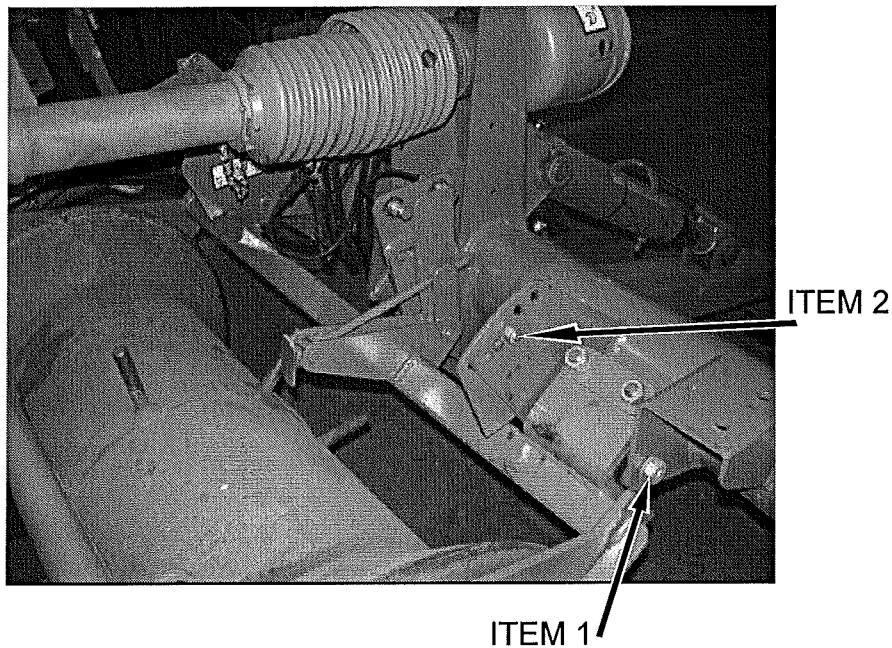

Fig 7.4
This adjustment must be made with the machine raised from work, and with the diabolo hanging freely. Slacken the resilient mounting pivot bolts (fig 7.4 item 1), support the diabolo and remove the pressure setting bolts (fig 7.4 item 2). Raise or lower the diabolo until the holes align with the chosen new position and refit the pressure setting bolts. Retighten the resilient pivot mounting bolts securely, and lower the diabolo.